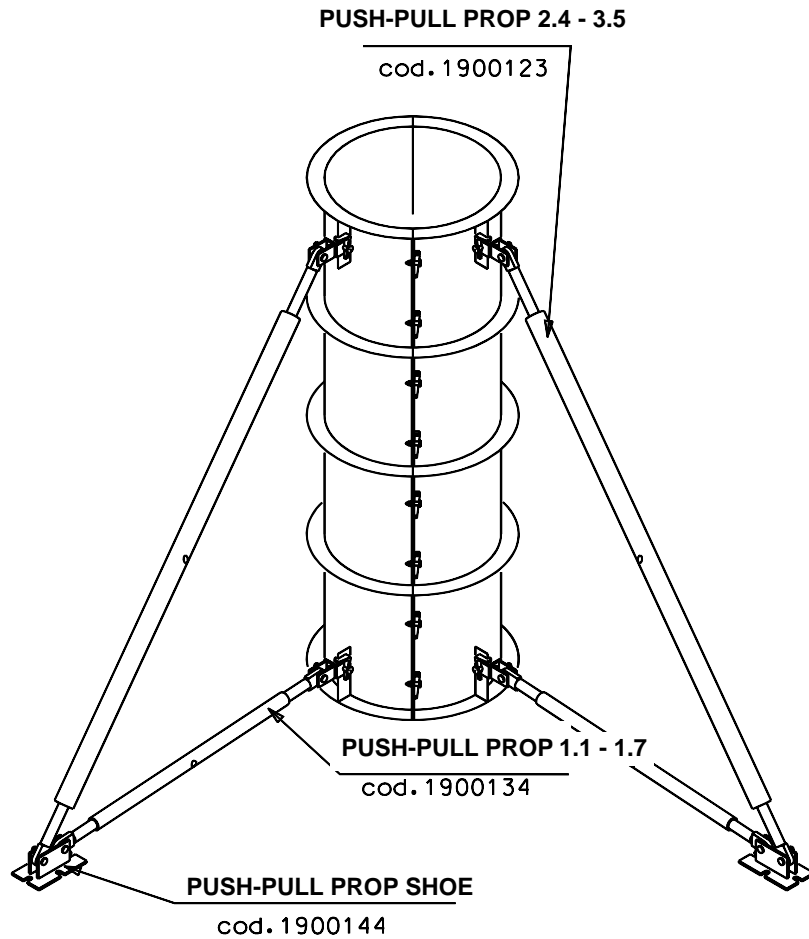

Figure 9
- ◆ Finally, install the ORMA PUSH-PULL PROPS and their corresponding PUSH-PULL PROP SHOES (See figure 9)